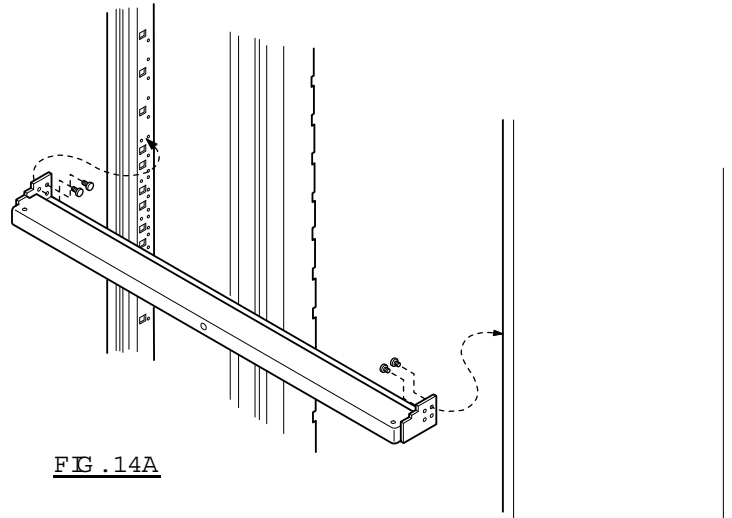

FIG. 14A
3. Remove the four (4) #10 cross-recess screws attaching the filler panel to the mounting rails (Figs. 14A, 14B).
1. To install filler panel, locate mounting holes in the vertical mounting rails (Figs. 14A, 14B).
2. Do not install filler panel upside down. Make certain filler panel is installed in position shown in Figures 14A and 14B.
3. Reattach filler panel using four (4) #10 cross-recess screws.